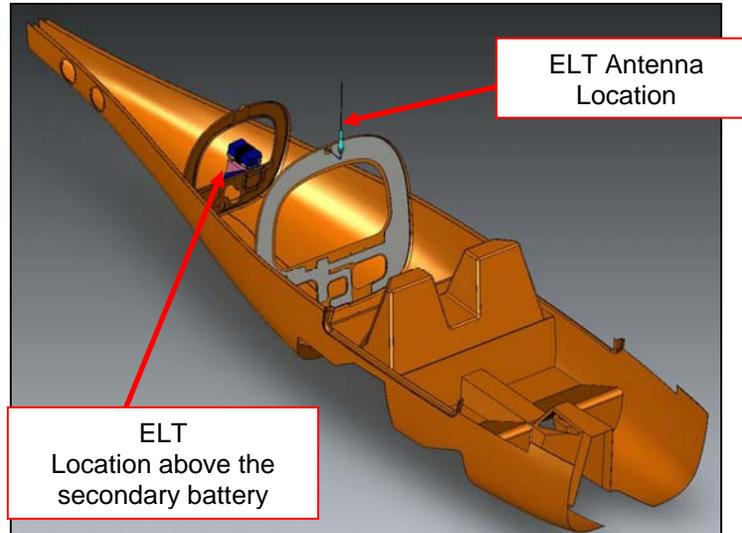
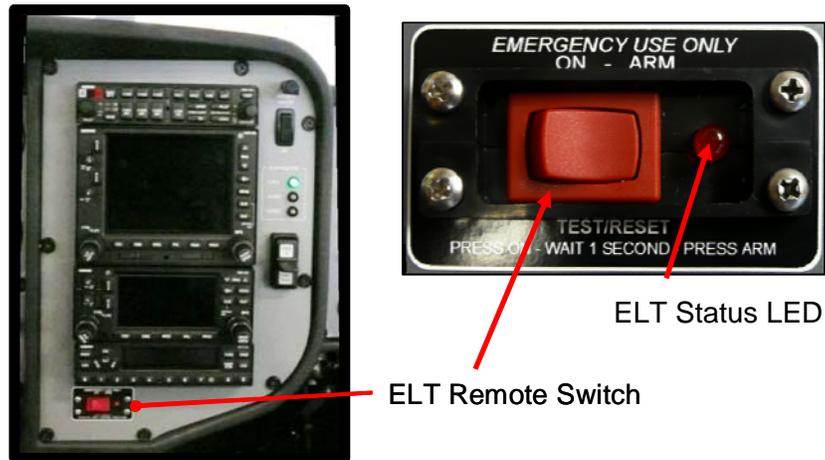
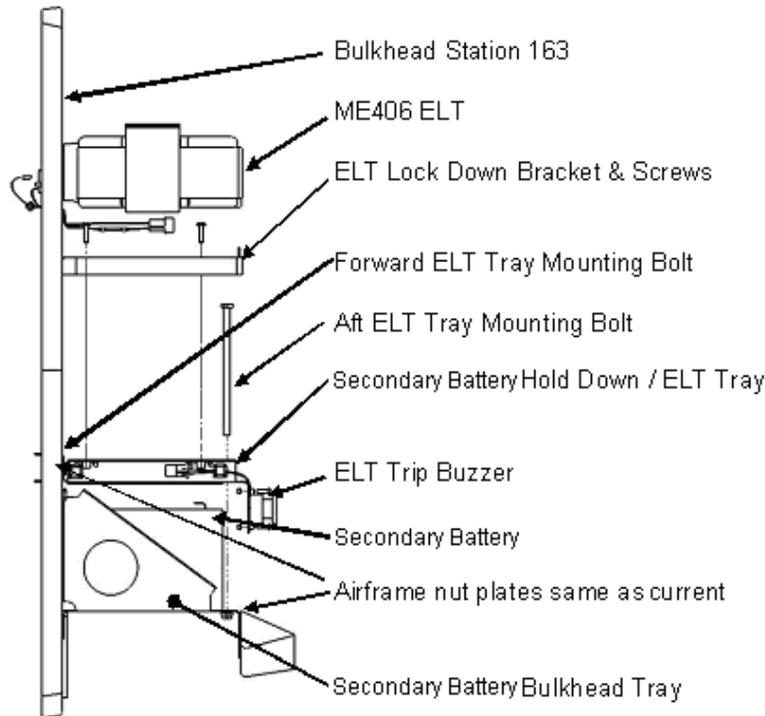
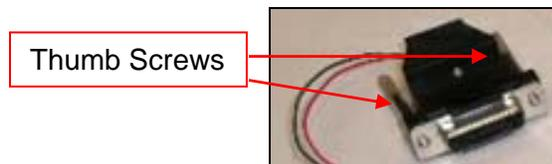

Figure 25-24 ELT Location
Figure 25-25 ELT Remote Switch Location
Figure 25-26 ELT Installation
Figure 25-27 D-Sub Connector
ELT installation may be found in the rear fuselage as shown in Figure 25-24. A bracket and tray installation, shown in an exploded view in Figure 25-26, fits directly above the secondary battery, supporting the ELT, warning buzzer and interconnecting wiring. An exterior dual band whip antenna (Figure 25-24 and Figure 25-25) connects directly to the ELT by means of a single RG400 coax cable. Pilot control and monitoring of the ELT is provided by a self powered remote switch assembly located in the avionics panel directly below the transponder as shown in Figure 25-25
4. Access the ELT, which is co-located with the secondary battery. See Figure 25-26 for the location of the ELT. Loosen the D-Subminiature connector's thumbscrews as shown in Figure 25-27 and disconnect the D-Subminiature connector.